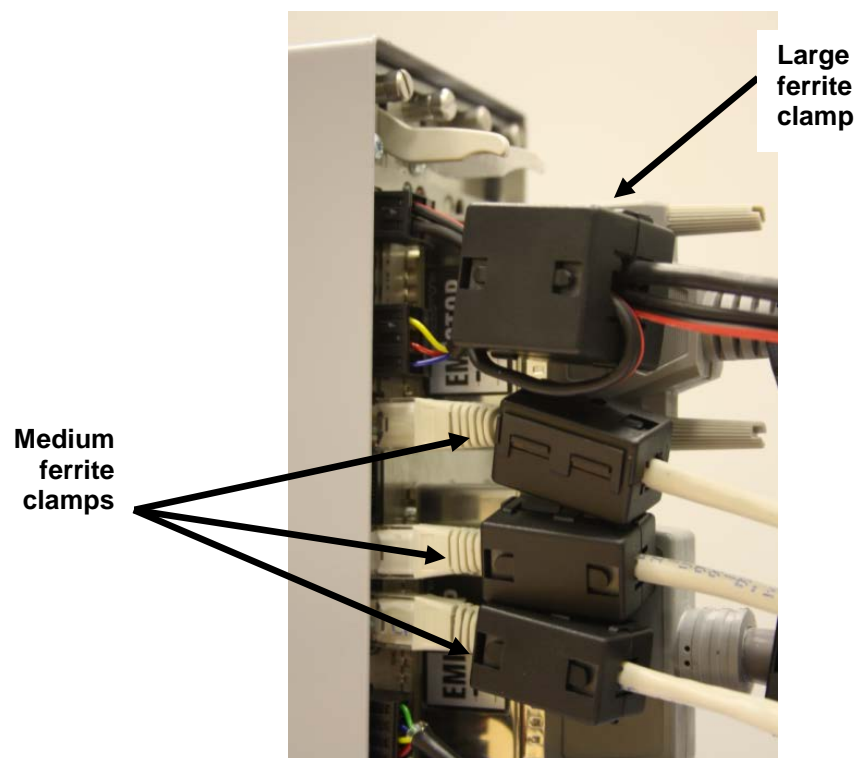

Figure 2-15. Clamps on CPU Module Power & COM Connections
7. Attach a large ferrite clamp onto the wiring to the CPU's power connections and one medium clamp to the COM3 and COM 4 connections (see *Figure 2-15*).